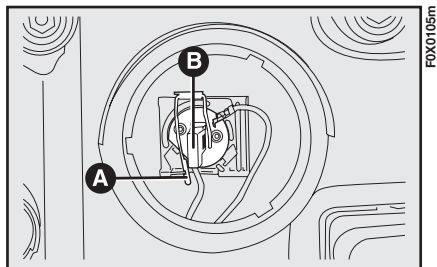

fig. 124
- disconnect connector B-fig. 124;